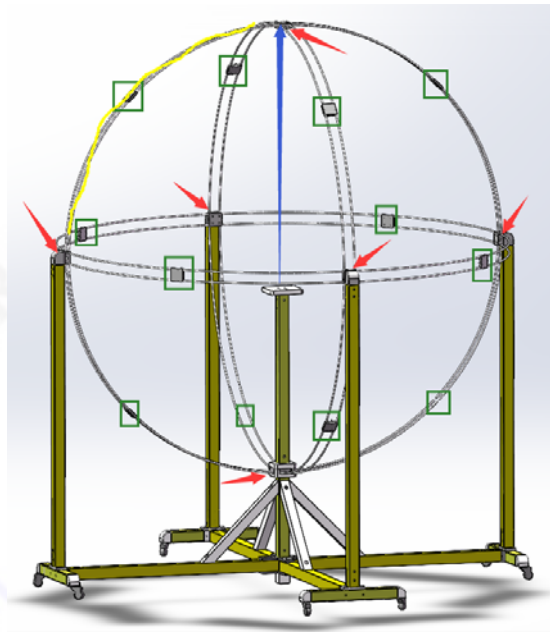
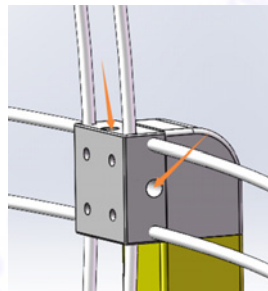

Fig 1 Overall appearance renderings
Fig 2 10-Cross-Connection-Module (Total 6pcs as shown by the red arrow in Fig 1)
1. Top Supporting Pole (shown in blue in Fig 1, remove it when in use, hold it up when not in use, so that there is a support point for the top), cable (shown in orange arrow in Fig 2, passing through the 10-Cross-Connection-Module) and Calibrator Set which three parts are not simulated in the figure, but they actually were included.
2. There are total 12 sensor/resistor boxes (shown in the green box in Fig 1). They have been built into the "In-ring Support Rod" (shown in the yellow line in Fig 1) before leaving the factory. The "In-ring Support Rod" is equipped with threading holes (similar to the orange arrow in Fig 2), you only need to insert the 12 sets of "In-ring Support Rod" into the 6pcs 10-Cross-Connection-Module without install about 100 screws to complete the three loops installation, save a lot of time.